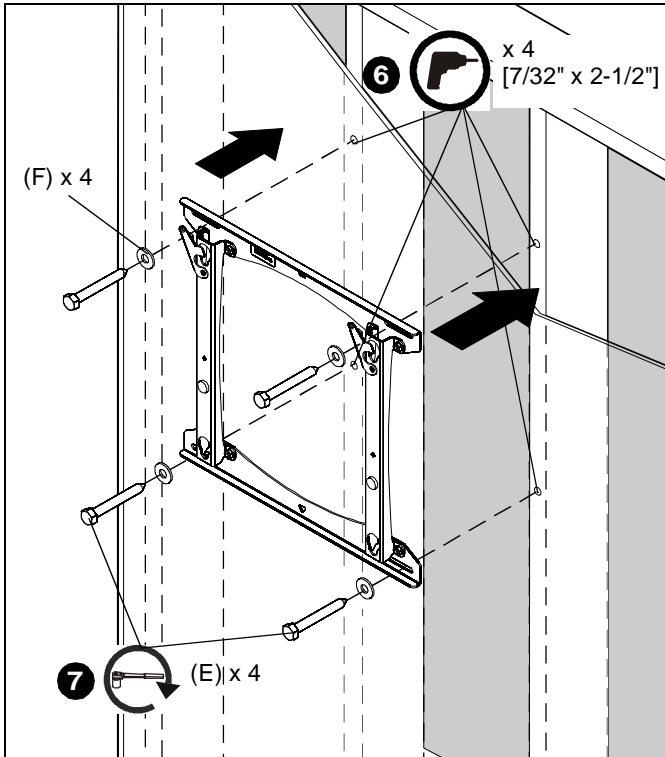

Figure 3
6. Using a 7/32" drill bit, drill four 2-1/2" deep pilot holes, ensuring they are centered on the studs. (See Figure 3)
7. Fasten PST16 to wall using four 5/16 x 2-1/2" lag bolts (E) and four 5/16" flat washers (F). (See Figure 3)